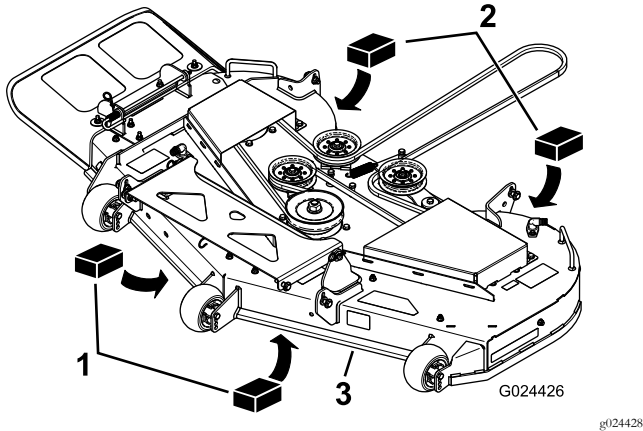

Figure 61
3. Place 2 blocks—6.6 cm (2-5/8 inches) under each side of the front edge of the deck, but not under the anti-scalp roller brackets (Figure 61).
4. Place 2 blocks—7.3 cm (2-7/8 inches) under the rear edge of the cutting deck skirt; one on each side of the cutting deck (Figure 61).